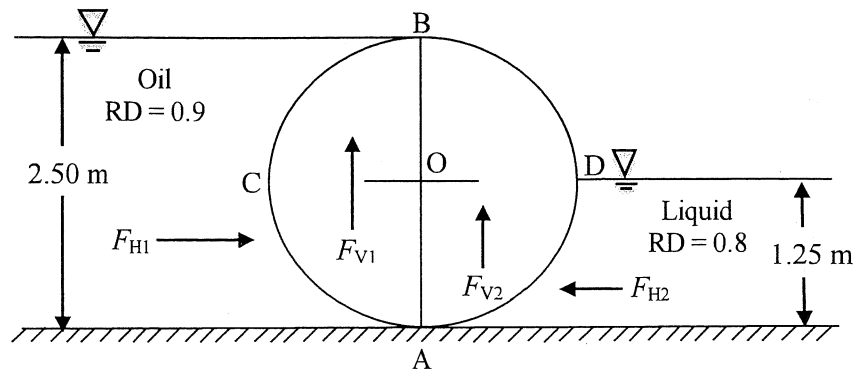

Figure 1
2. Consider a cylindrical gate of diameter 2.5 m retaining two liquids with different relative densities on either side of it as shown in Figure 1.